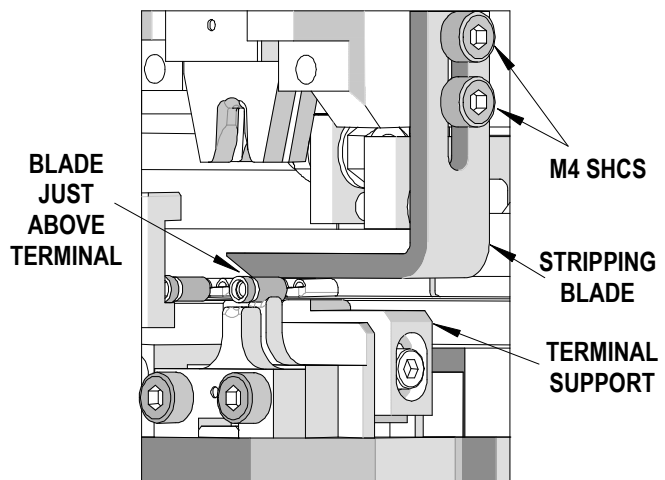

Figure 2-23
2. To adjust the terminal support, use a 2.5mm wrench to loosen the M3 SHCS holding it in place. See Figure 2-23.
5. Retighten the two M4 SHCS. See Figure 2-23.